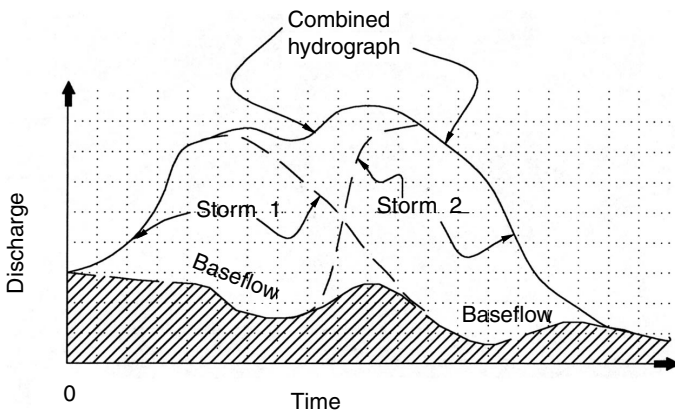

FIGURE D-5 Discharge hydrograph (two storms).
**Discharge hydrograph (or flow hydrograph)** A graph of discharge versus time for the flow in a stream or conduit. In hydrology, the discharge hydrograph reflects the nature of a flood as well as the physiographic and climactic conditions of the drainage basin. For a single storm, it consists of a rising limb, a peak, and a receding limb. At any time, the discharge is the sum of baseflow and direct runoff. *See* Figure D-5.